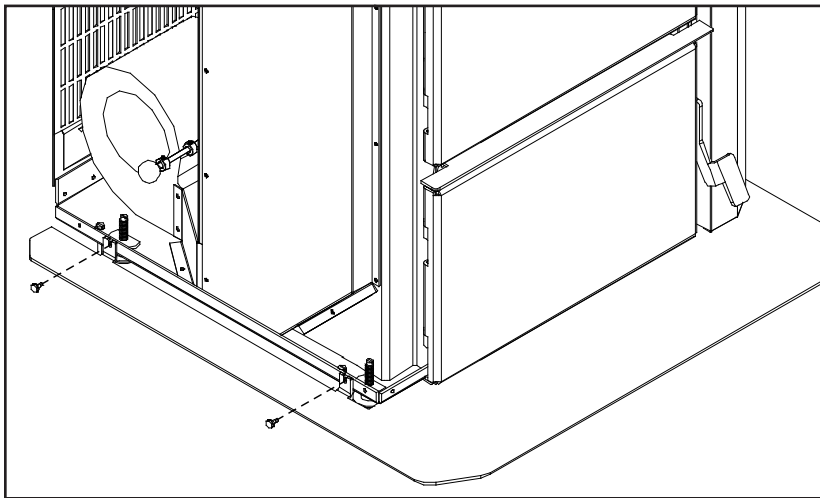

Figure 4: Maxx-M Installation du Bouclier de Foyer.
1. Remove the right and left hand cabinet sides. Partially back out the two (2) T-20 Torx screws on the back of the each panel and the two (2) located on the front inside edge below the louvers and ash shelf. Pull the panel forward then remove.
3. Secure the shield to the unit with two (2) screws on each side (see Figure 4).